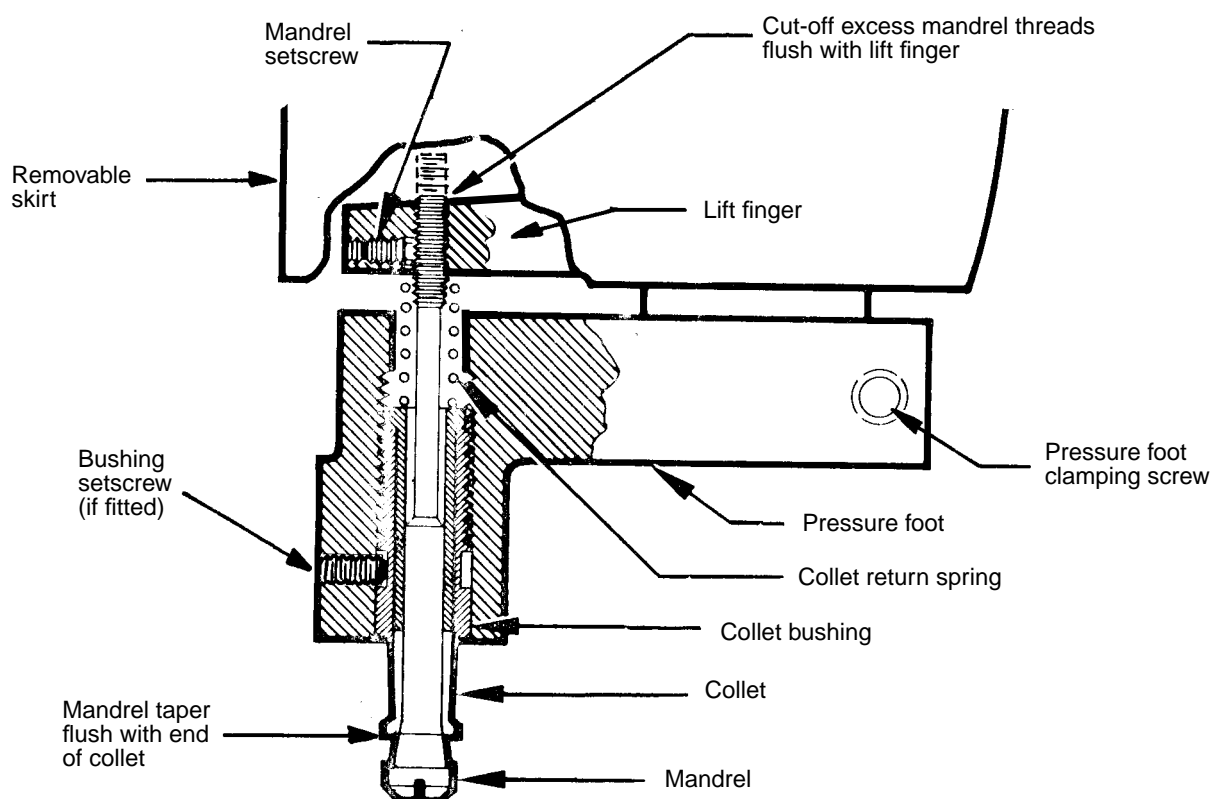

Figure 2 - Installation of Collet, Mandrel & Bushing
- 5.2.1 Install the collet, mandrel and collet bushing as follows (see Figure 2):